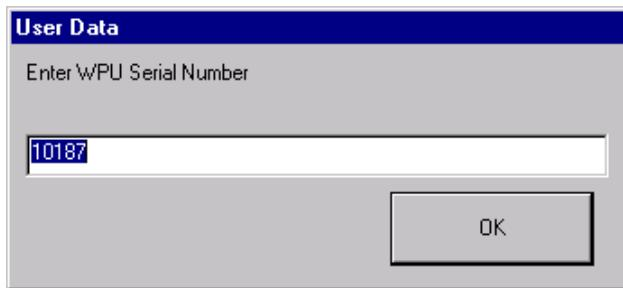

FIGURE 20. Typical Serial Number Dialog
- 3.36 If the WPU serial number is correct, touch the 'OK' button to continue. If the serial number is incorrect, touch the 'WPU Serial Number' field, then using the keyboard attached to the NM6000 type in the serial number previously recorded in Step 1.3. Then touch the 'OK' button to continue. See FIGURE 20.